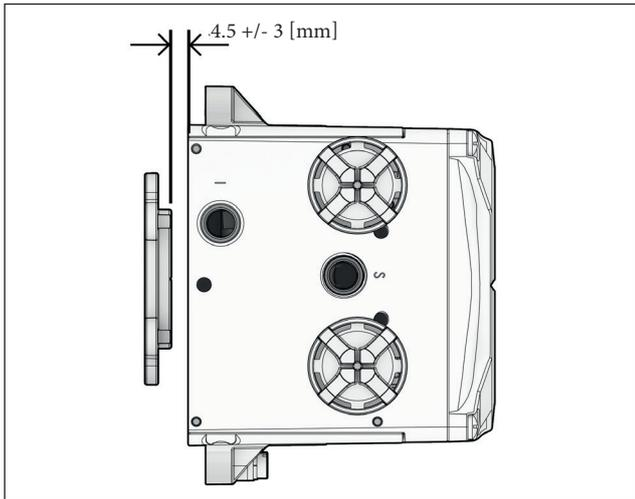

Fig. 24.
3. The distance between the magnet and the device bottom shall be 4.5 mm with +/- 3 mm tolerance (1.5 - 7.5 mm). See fig 24.